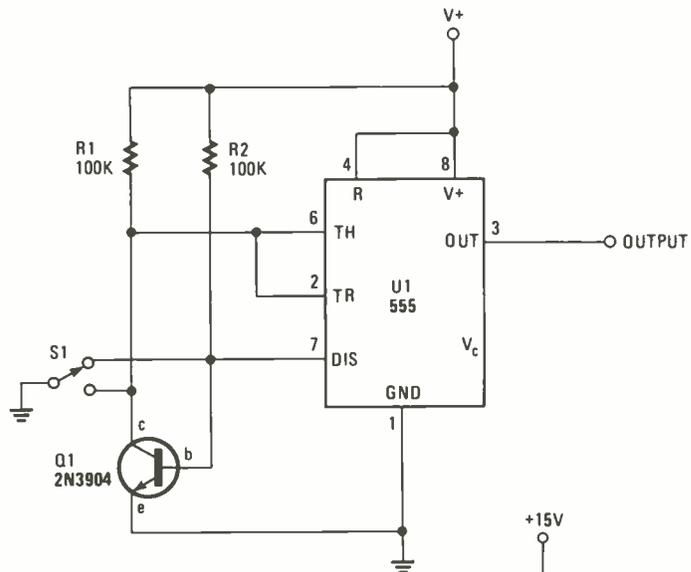

Fig. 9
T.M., as you can imagine, one of the changes is that things have speeded-up tremendously! Maybe in the lethargic vacuum tube days, when you closed a switch it closed. Period. But as I said, things have speeded up. We know now that when a mechanical switch closes, it *bounces*, generating noise. If you'll look at Fig. 9, you'll see how we clean things up.